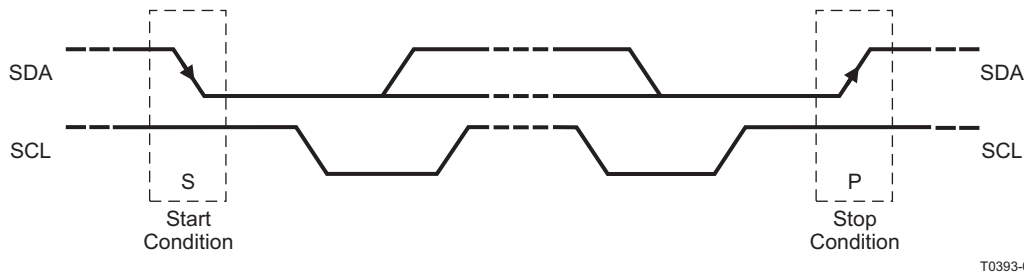

Figure 38. I²C Start and Stop Conditions
The basic I²C start and stop access cycles are shown in Figure 38.
- The *master* initiates data transfer by generating a *start condition*. The *start condition* is when a high-to-low transition occurs on the SDA line while SCL is high, as shown in Figure 38. All I²C-compatible devices should recognize a *start condition*.
- To signal the end of the data transfer, the master generates a *stop condition* by pulling the SDA line from low to high while the SCL line is high (see Figure 38). This releases the bus and stops the communication link with the addressed slave. All I²C compatible devices must recognize the stop condition. Upon the receipt of a *stop condition*, all devices know that the bus is released, and they wait for a *start condition* followed by a matching address.